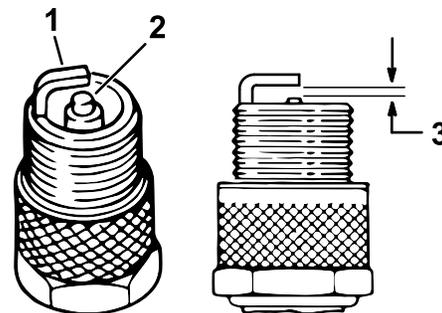

Figure 40
4. Check the condition of the side electrode, center electrode, and center electrode insulator to ensure that there is no damage (Figure 40).
5. Set the air gap between the center and side of the electrodes at **1 mm (0.04 inch)** for **EFI models** or **0.76 mm (0.03 inch)** for **carburetor models** as shown in Figure 40.